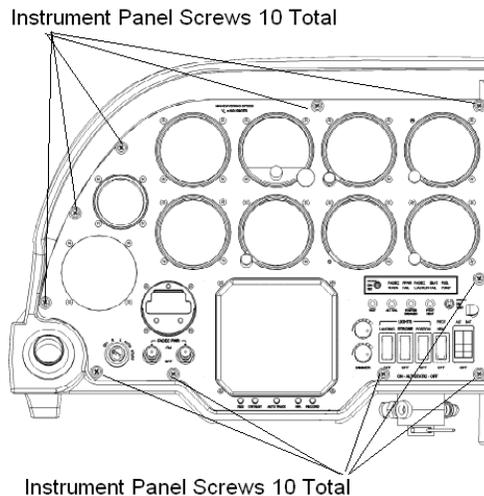

Figure 34-28 Location of the Screws Securing the Instrument Panel
4. Remove the ten screws securing the instrument panel to the instrument console. See Figure 34-28 for location of the screws.
5. Remove the ten screws securing the instrument panel to the instrument console. See Figure 34-28 for location of the screws.